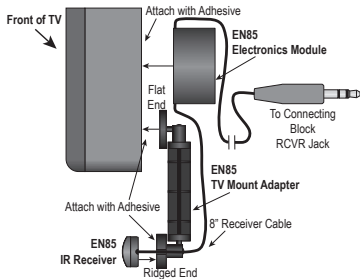

Figure 2 - TV Mount Adapter - Rear Mount
2. With the 8" Receiver Cable aligned to the Wire Gap on the ridged end of the TV Mount Adapter, (**Figure 5**) using one of the round, notched adhesive strips, attach the IR Receiver to the TV Mount Adapter. **Figures 2 & 3**
3. Using one of the round adhesive strips, attach the flat end of the TV Mount Adapter to the TV frame. **Figures 2 & 3 & 5**
5. Using one of the round adhesive strips, attach the Electronics Module to the rear of the TV. Do not block any TV vents. **Figures 2 & 3**